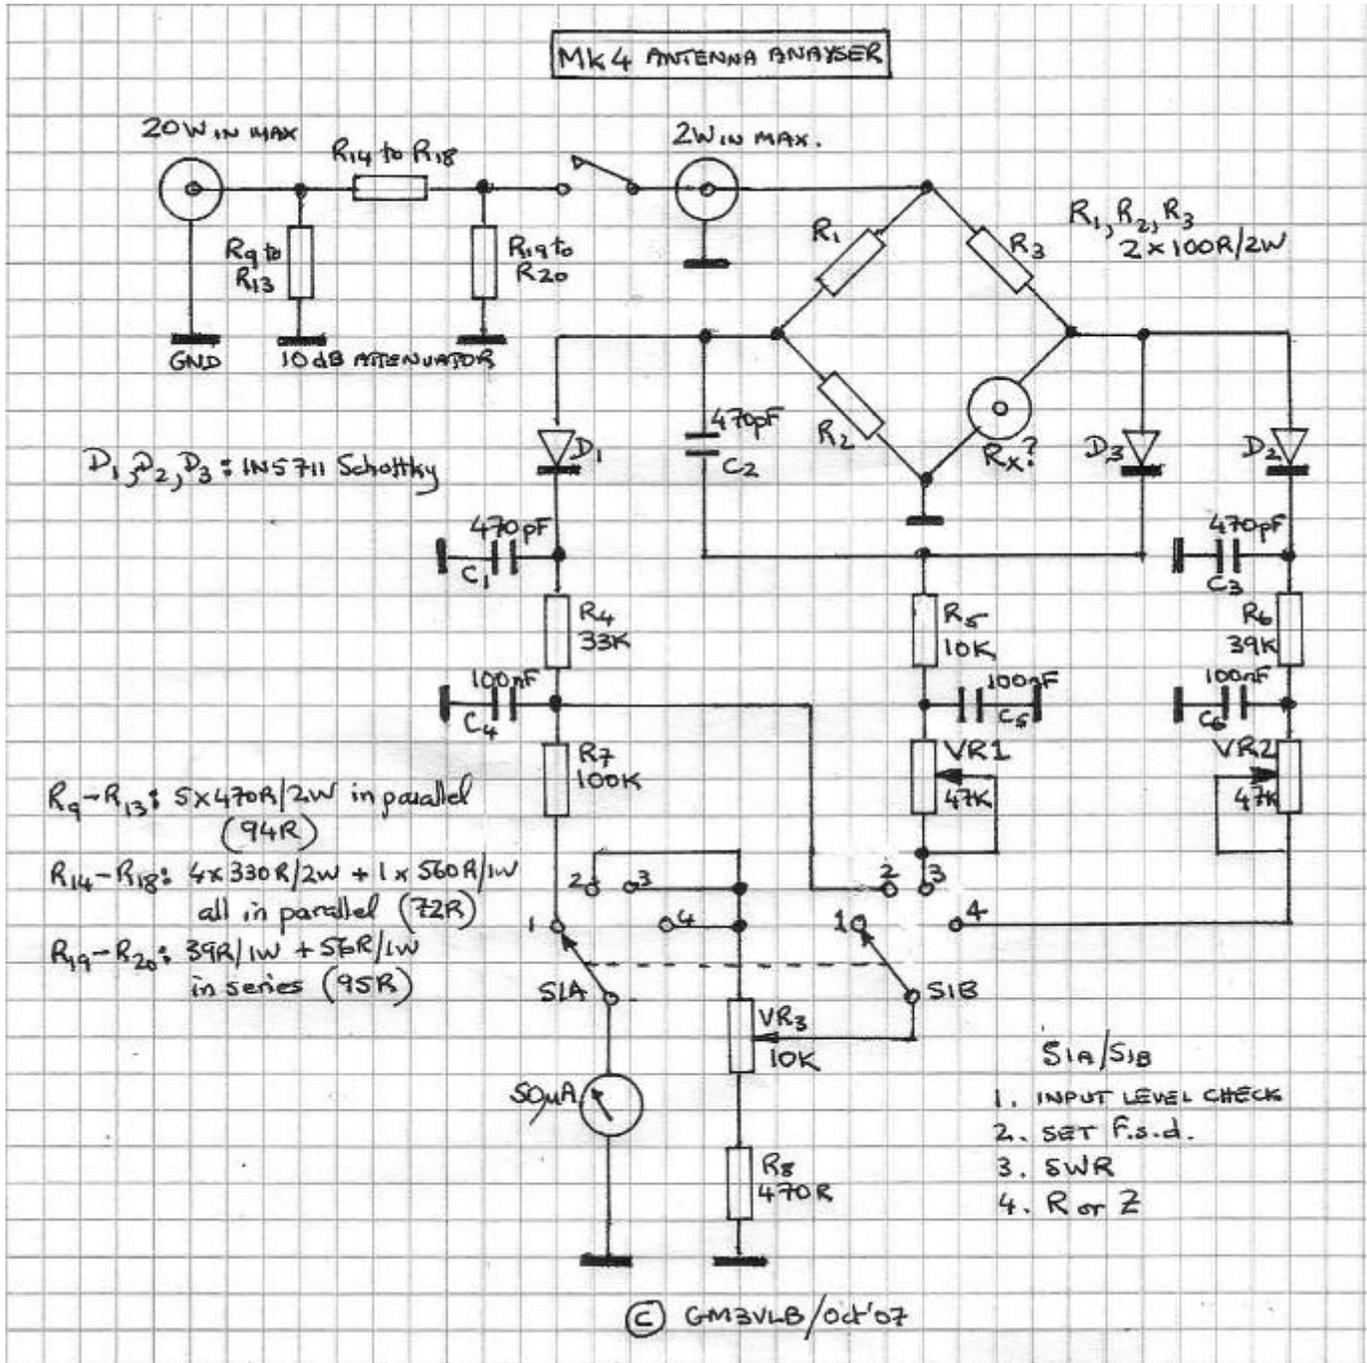
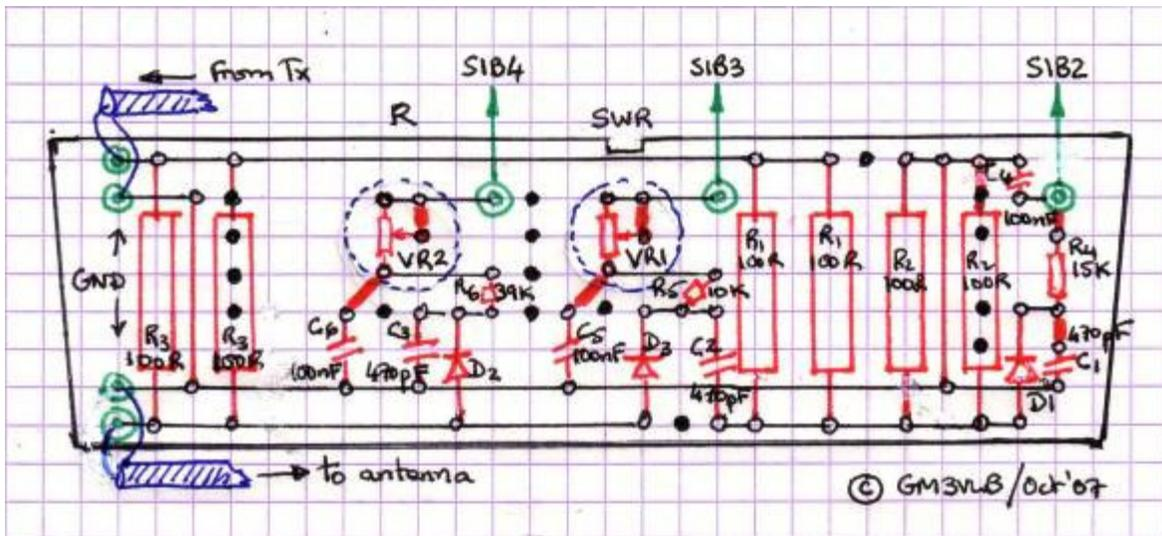
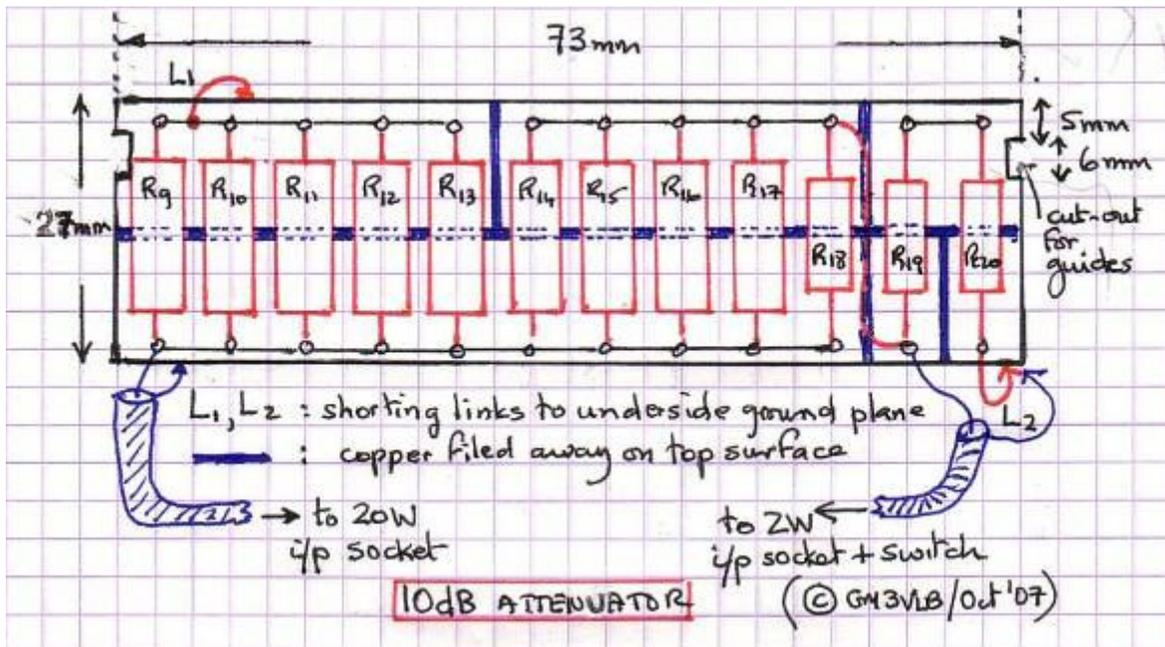

Fig.2
Fig.3
Fig.4
In the circuit diagram (Fig 2) below, resistors R9 to R20 form a  $\Pi$ -pad 10dB attenuator (2). Two inputs to the bridge are available. When the “HIGH” input (20W max.) is selected (transceiver input to “HIGH I/P” and switch closed), the signal passes to the bridge via the 10dB attenuator which reduces the power by a factor of 10. When the “LOW” input is used (2W max.), the signal is fed directly to the bridge.
Over many years managing ‘O’Level Electronics projects in schools, I developed (as mentioned in Part 1), my own “Veroboard” assembly method which has worked well for both simple and more complex projects. The layout of the main board is shown in Fig.3 below. A slight variation of the technique, using double-sided PCB was used for the construction of the 10dB attenuator (Fig.4).
A slight variation of this “Veroboard technique”, using double-sided PCB was used for the construction of the 10dB attenuator (Fig.4 below).
Those with basic skills such as the ability to use a soldering iron, identify different components on the relatively simple circuit diagram (Fig.2) and mount them on Veroboard (Fig.3 and Fig.4) or other preferred method, should have no problem constructing this “analyser”. If you are confident doing basic, repetitive calculations using a calculator, a more accurate method for producing the “SWR” and “R” scales is described in Part 3. It is not necessary to fully understand the preceding theoretical discussion – you can simply use **equation (4) for “SWR”** and **equation (6) for “R”** Either way, it should be possible to build this most useful instrument for under £20. All parts are readily available. One word of advice...avoid cheap, “VU-meter” type meters. It is possible to use them, but their non-linear scales cause additional, unnecessary complexity. Rallies are a good source of quality alternatives. I have *a few* brand new, military-quality linear Russian 50μA meters, complete with re-calibrated scales, available for **£15** (inc. P&P). Finally, for those who might perhaps wish a bit more understanding of “*how the thing works*”, I shall describe the theory behind this instrument in a bit more detail in Part 3.